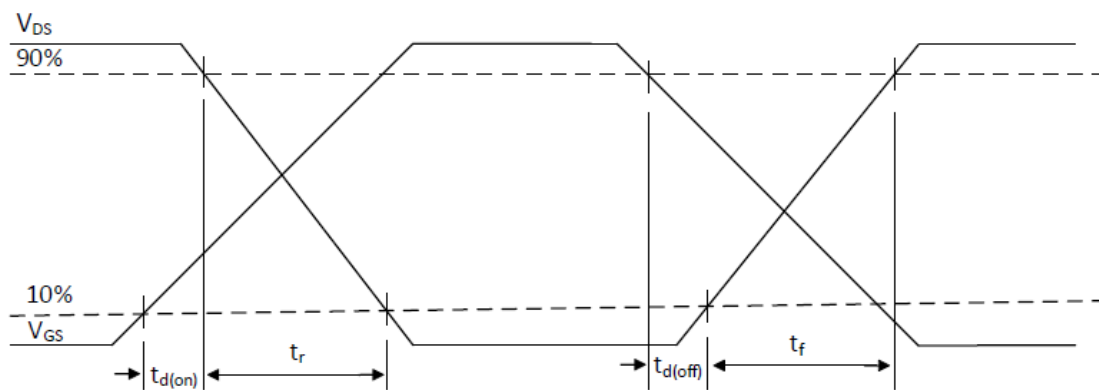

Figure 17: Switching Time Waveforms
(8) See Figure 17 for switching time definition waveforms.